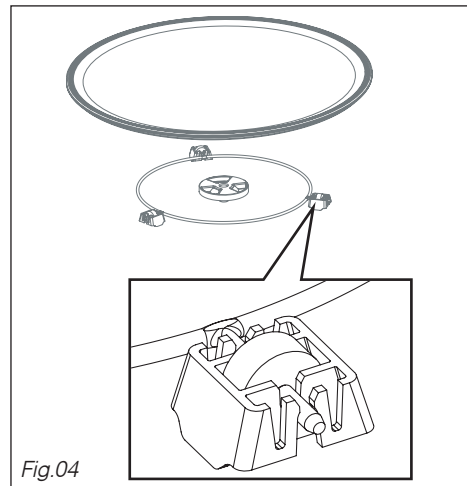

Fig.04
• **The driver:** causes the glass turntable to turn (Fig.04).
• **The base rollers:** Rollers must be positioned in the right direction (Fig.04).